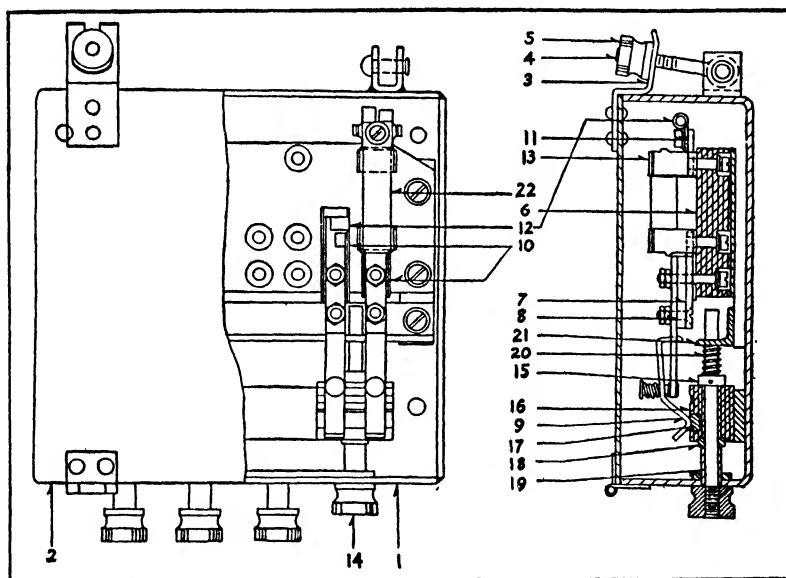

Fig. 26. Push Button Box
*Traction Motor Reversers—(Fig. 25)**Controllers**Engine Governor Operators**Push Button Boxes for Auxiliary Circuits—(Fig. 26)**Relays: Regulating, Reverse Current, Transition, Ground Protection, Etc.**Knife Switches*